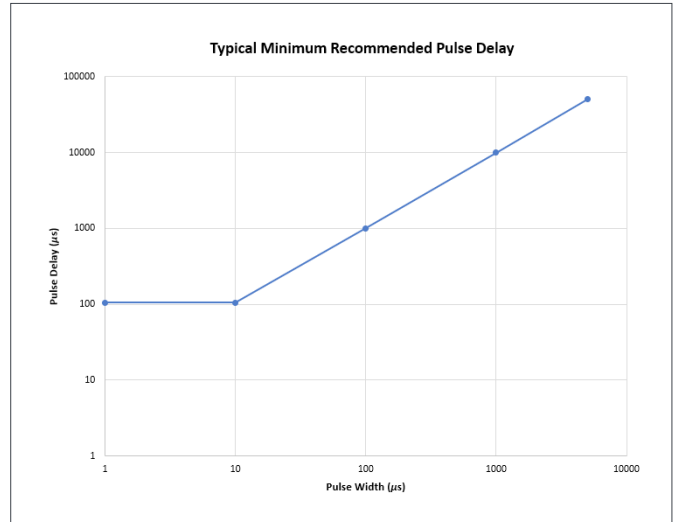

FIGURE 4
21. Valid for continuous pulse mode only. For all other modes, as the pulse width becomes large relative to the pulse delay, the actual pulse delay may be longer than the programmed pulse delay due to time required for measurement processing. Typical minimum pulse delay settings for a given pulse width can be seen in the graph in **Figure 4**.